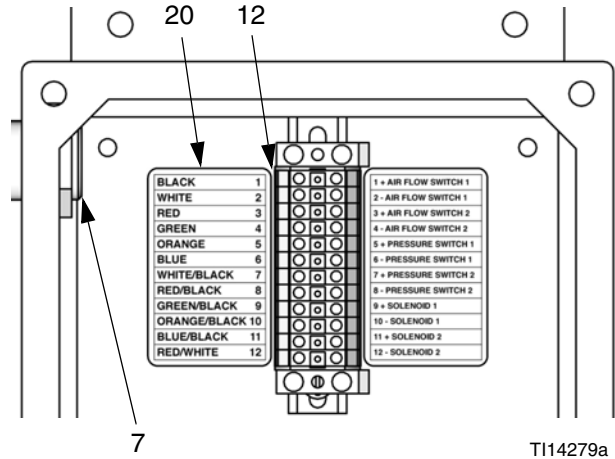

FIG. 2. Connect Cable to Terminal Strip
2. The cable (23) has bare wires at both ends. Thread the shortest end (4 in. [102 mm]) into the enclosure through the strain relief bushing (7). See Fig. 2.
3. Connect the cable wires to the left side of the terminal strip (12), as indicated by the label (20). See Fig. 2 and Table 1.